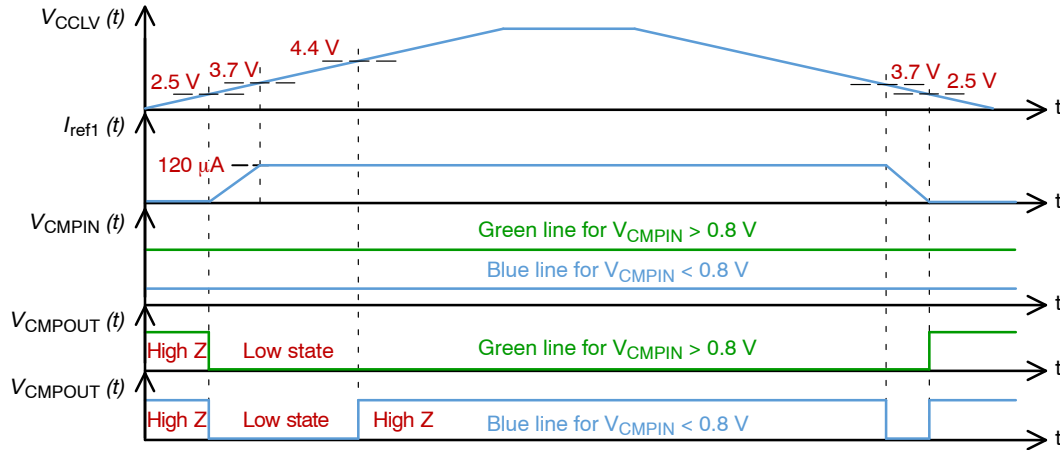

Figure 53. Operational Condition of the Comparator Based on Supply Voltage
The internal current source I_{ref1} has its nominal value when supply voltage V_{CCLV} is above 3.7 V. Figure 53 shows the behavior of the comparator based on supply voltage V_{CCLV} .